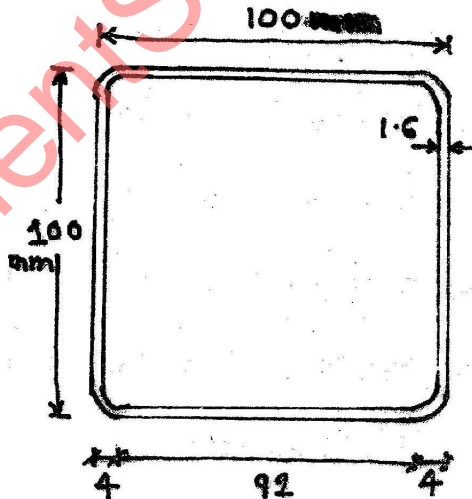

Figure No. 3
- (b) A column section, as shown in Figure No. 3, is to be used as a column section. The effective length of the section is 3.2 m. Determine the allowable load. The properties of the section are as follows :